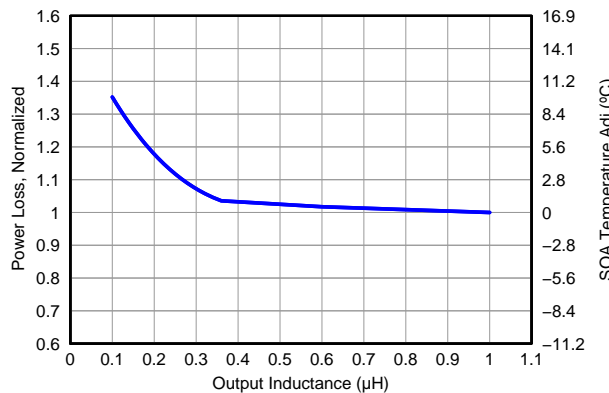

Figure 9. Normalized Power Loss vs. Output Inductance
- Normalized Power Loss for output inductor  $\approx 1.04$  (Figure 9)
- SOA adjustment for output inductor  $\approx 1^\circ\text{C}$  (Figure 9)